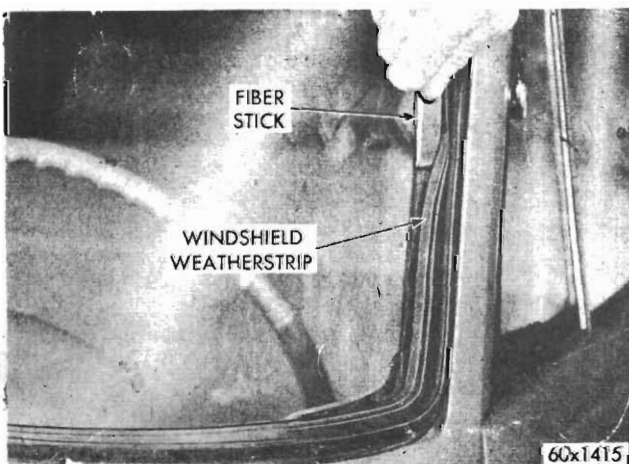

Fig. 32 - Freeing weatherstrip from windshield (typical view)
(6) Insert a tapered end of fibre stick between the weatherstrip and the glass and work the weatherstrip from the glass (see Fig. 32).